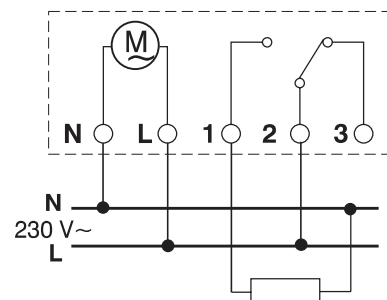

fig. 2
- connect the 230V~ power supply to terminals N and L (fig. 2)
- connect the interlocked device to terminals 1 - 2 - 3 (fig. 2)